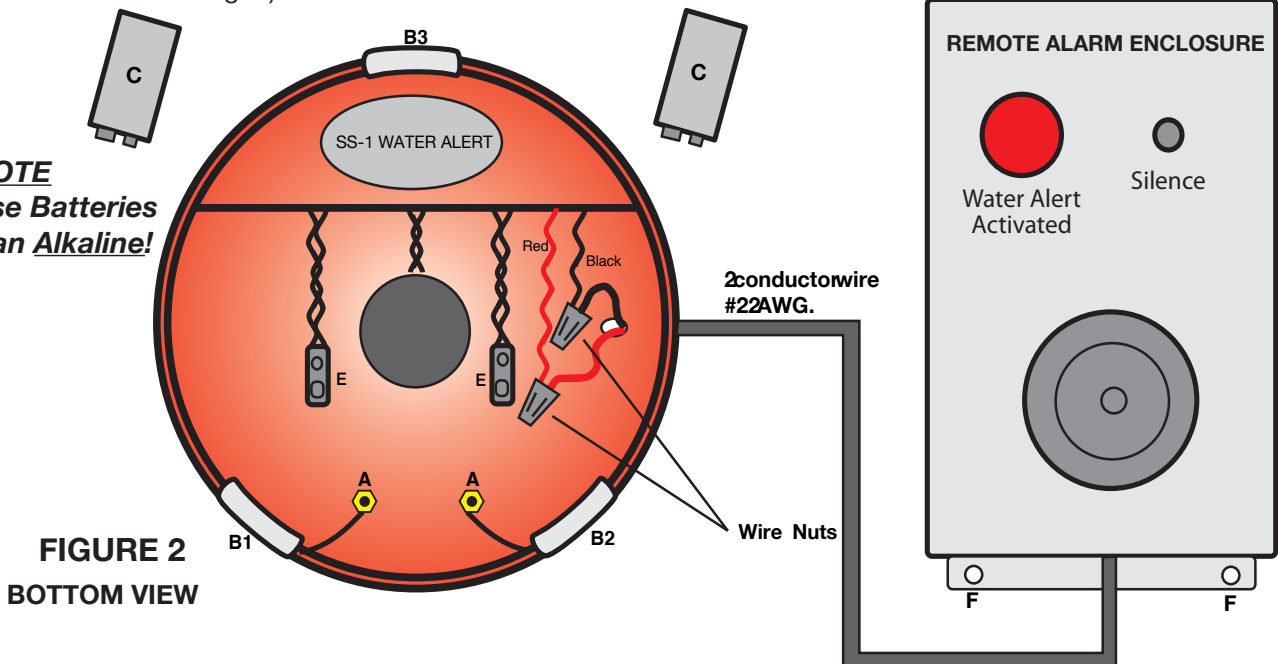

FIGURE 2
1. To adjust sensor height, hold straight edge across pads (B1 & B2). Turn sensors (A & A) out or until distance to straight edge equals the desired water detection level. See Figure 2.
2. Connect battery leads (E) and (E') to terminals of batteries (C) and (C'). Then insert the batteries into retainer clips. Then connect red wire(+) and black wire(-) from remote alarm enclosure to + and - of water alert with wire nuts supplied.